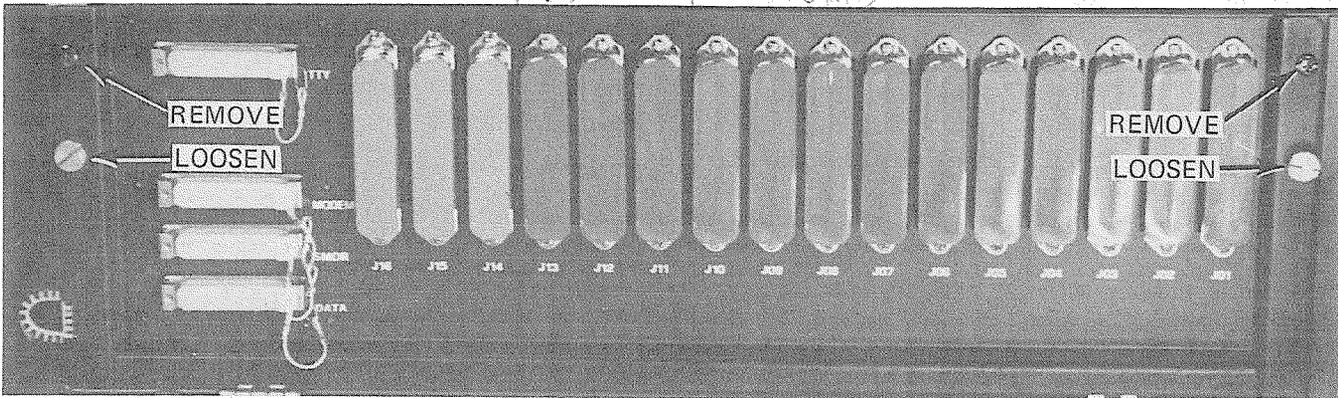

FIGURE 11—DCEC CONNECTOR PANEL
- a) Remove and save the two screws located in the upper corners of the DCEC connector panel (Figure 11).
- b) Loosen the thumb screws that are provided for securing the connector locking bar until the connector panel can move freely (Figure 11).